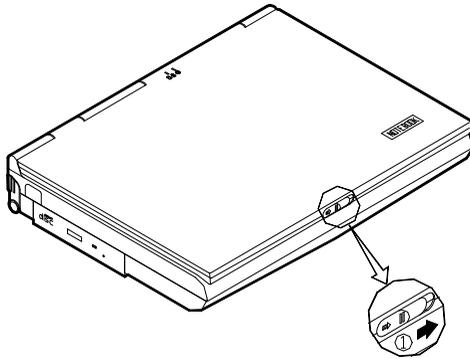

Figure 1-5
- 1** Press the latch to release the top cover. (Figure 1-5).